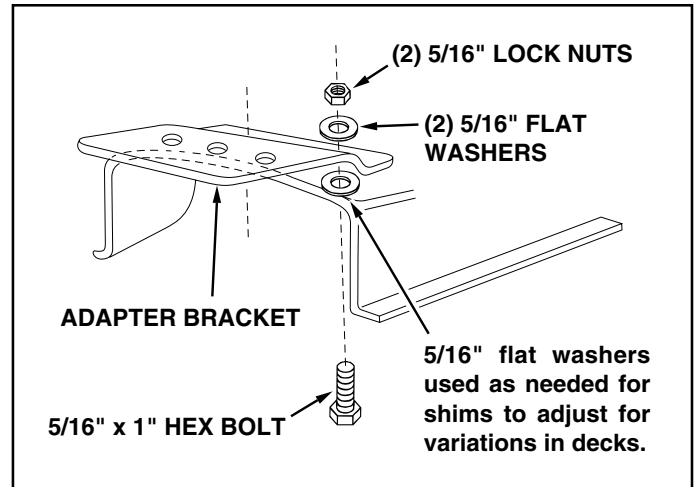

FIGURE 27
- Assemble the adapter bracket to the deck using two 5/16" x 1" hex bolts, 5/16" flat washers and 5/16" lock nuts. See figure 27.
**NOTE:** It may be necessary to use extra 5/16" flat washers to shim under the bracket next to the deck surface. Ten extra washers have been furnished as shims. See figure 27.